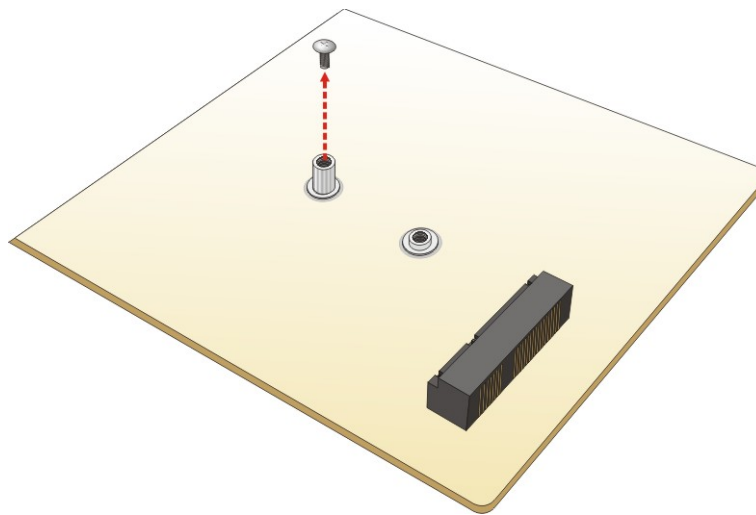

Figure 4-5: Removing the Retention Screw
Step 2: Remove the retention screw as shown in **Figure 4-5**.